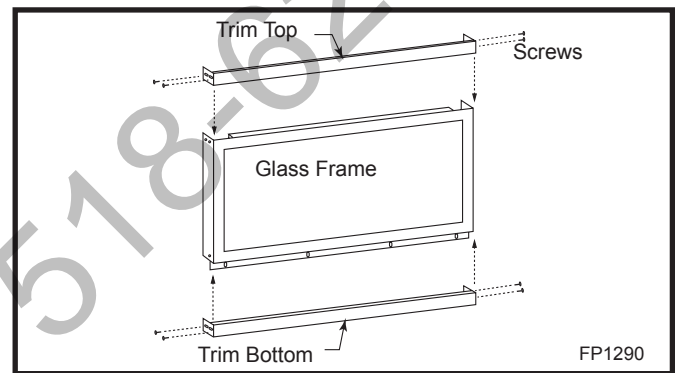

Fig. 28 Install top and bottom brass trim.
2. Install top and bottom brass trim by using the shortest black screw. (Fig. 28 & 29)